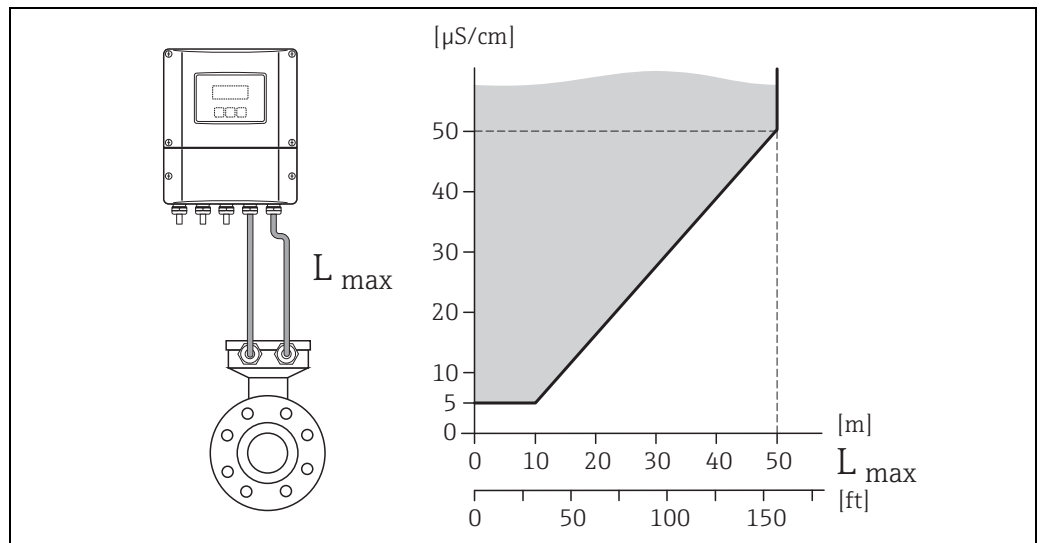
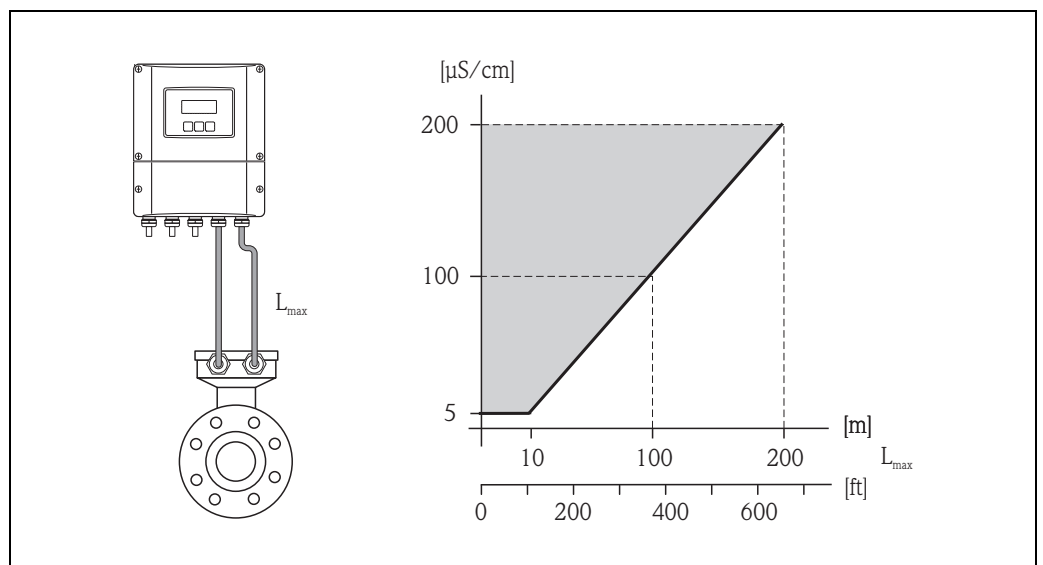

Fig. 16: Permitted lengths for connecting cable in remote version, as a function of the conductivity of the fluid
Fig. 17: Permitted lengths for connecting cable in remote version, as a function of the conductivity of the fluid
- The permissible cable length L_{max} depends on the fluid conductivity (Fig. 16, Fig. 17).